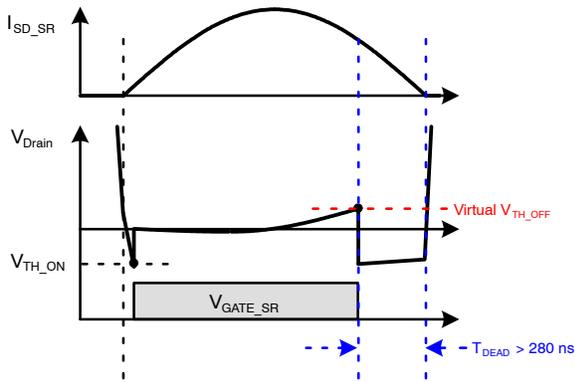
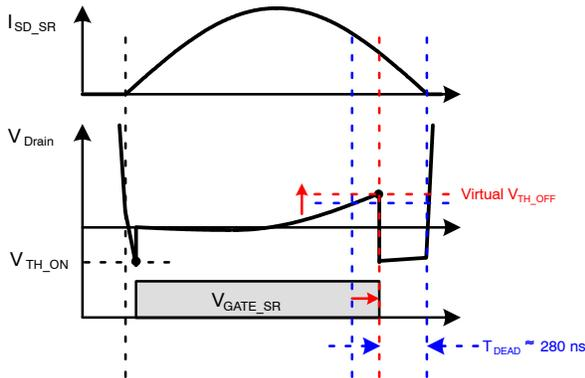

Figure 23. Premature SR Gate Turn-off
Figure 24. Dead Time Control to Maintain
In FAN6248HC(D) version, if a dead time T_{DEAD} is larger than 280 ns of t_{DEAD_H} , as shown in Figure 23, V_{offset} is decreased by one step in next switching cycle. As a result, the dead time is decreased by increase of virtual V_{TH_OFF} , and becomes close to t_{DEAD_H} , as shown in Figure 24. If the dead time is smaller than t_{DEAD_H} , the dead time is increased by the virtual V_{TH_OFF} decrease. Thus, the dead time is maintained at around t_{DEAD_H} regardless of parasitic inductances.